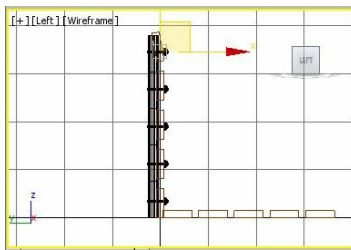

Figure 2-78 Alignment of rivets in the Left viewport
4. In the Left viewport, select *rivet001* using the **Select and Move** tool and move the cursor over the vertical axis. Now, create 4 copies of *rivet001*. These copies are automatically named as *rivet002*, *rivet003*, *rivet004*, and *rivet005*. Align them in the Left viewport, refer to Figure 2-78.